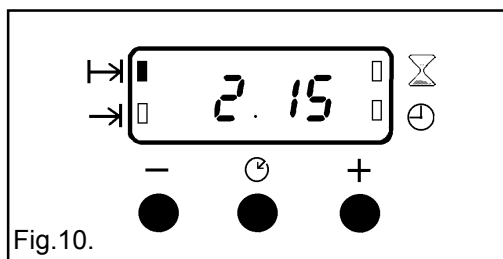

Fig.10.
- iii) To set the length of cooking time, press the Selector Control button until the 'Cook Time' (⌂) indicator neon is illuminated. Press the increase control (+) until the required length of cooking time is displayed, e.g. 2 hrs 15 mins as Fig. 10. Depress the decrease control (-) if necessary.